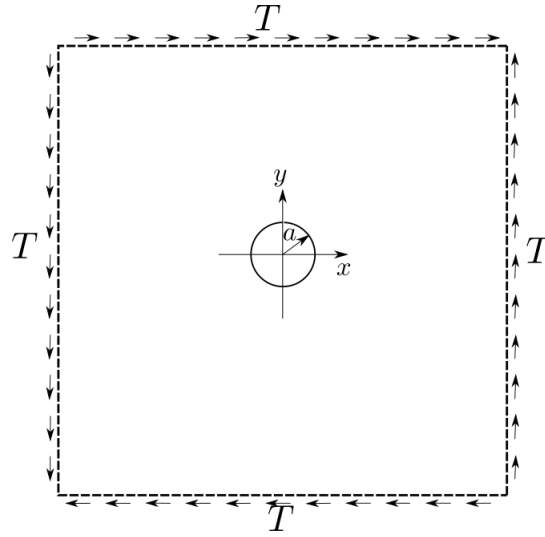

Figure 4: A large square plate with a small hole, subjected to shear loading.
- (d) If the loading is changed as shown in fig. 4, would you be able to use the results determined above to solve this new loading condition? If so, please write down a proper justification for the same, and the solution framework. **(3 marks)**